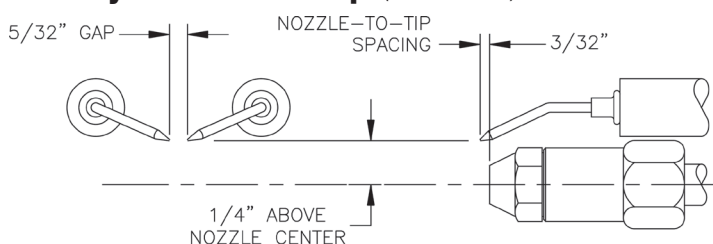

Figure 34: Electrode Tip Gap and Spacing
- Verify nozzle size, gun setting and positioning of electrodes. See Figures 34 through 36 and Beckett NX Burner Specifications, Table 19 at the rear of this manual.
- Check electrodes to comply with dimensions shown in Figure 34. For adjustment, loosen the electrode clamp screw and slide/rotate electrodes as needed. Securely re-tighten the clamp screw when finished.